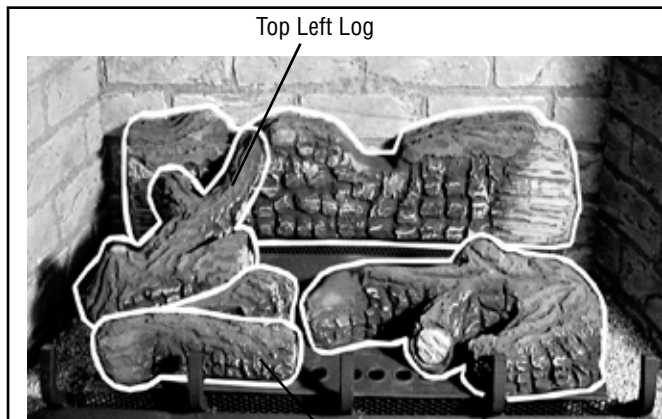

Figure 34
4. Place the Front Left Log onto the two corresponding locating pins, then place the Top Left Log onto the locating pin on the Center Left Log (the log will rest in the corresponding indent on Rear Log). See **Figure 34**.